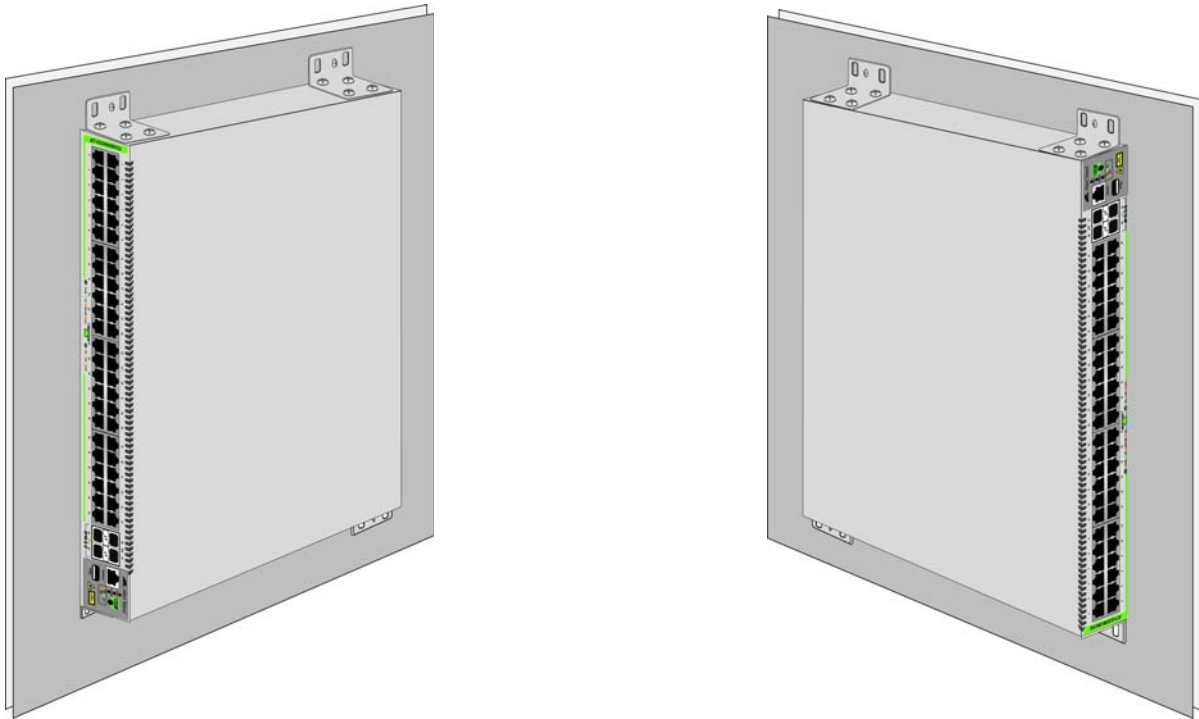

Figure 23. Positioning the Switch on a Wall
You can install the switch on a wall with the front panel on the left or right, as shown in Figure 23. Do not install it with the front panel on the top or bottom.
- ❑ Position it so that the front panel is either on the left or right. Refer to Figure 23 on page 58. Do not install it with the front panel facing up or down.
- ❑ Position the switch so that the front panel is either on the left or the right. Refer to Figure 23 on page 58. You may not install the switch with the front panel facing up or down.